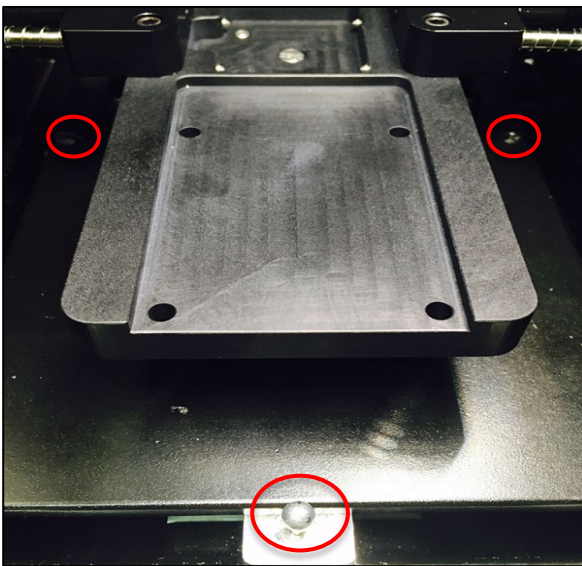
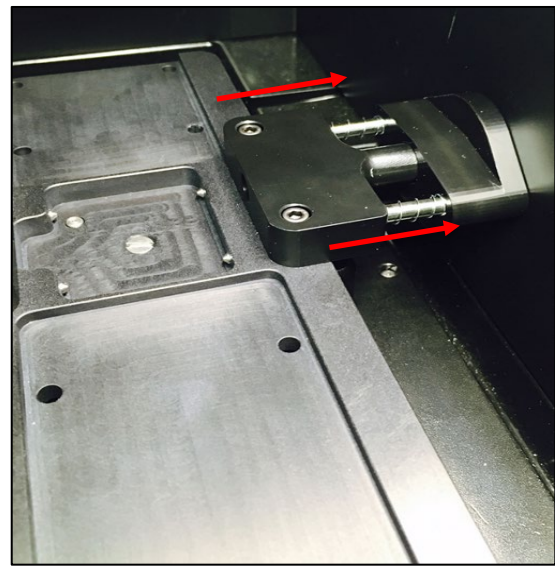

FIGURE 3: Registration pins and front slip-pin
FIGURE 4: Spring-loaded beam tubes
3. Insert the baseplate assembly into the sample compartment of the Evolution Spectrometer using the registration pins at the back, and then push down to secure the plate against the front slip-pin (see *Figure 3*). Ensure that the spring-loaded beam tubes fit flush against the walls (see *Figure 4*).